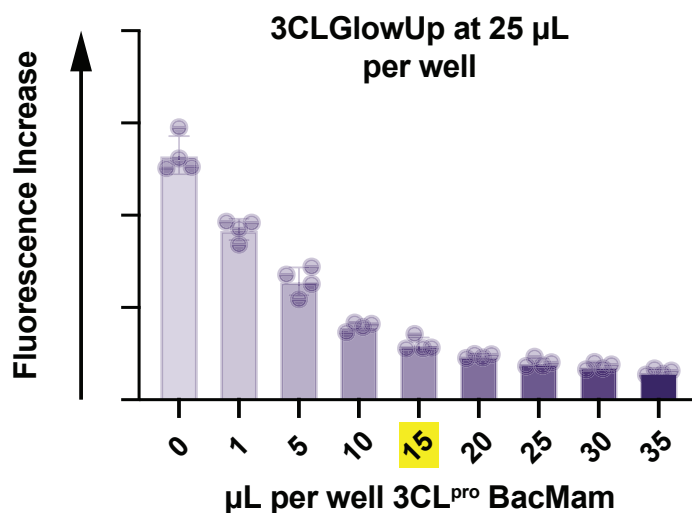

Figure 2.
- Perform titration to determine optimal 3CL^{pro} BacMam volume for your cells, as detailed in Figure 2.
Tip: *15 μL is highlighted in Fig. 2 because it is the volume that we determined in our optimization experimnt*